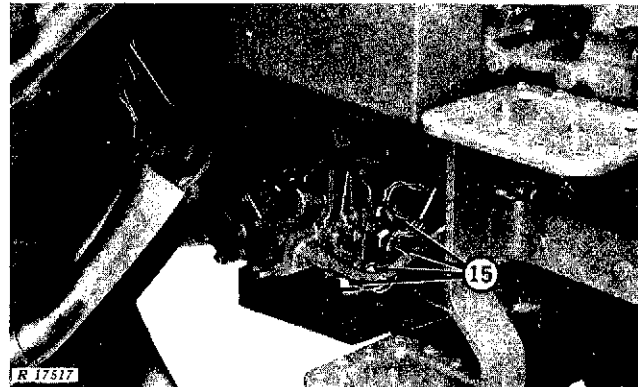

Fig. 11-Power Front-Wheel Drive Switches (Power Shift Tractor)
15. On tractors with Power Front-Wheel Drive, disconnect wiring harness from switches (Fig. 11).